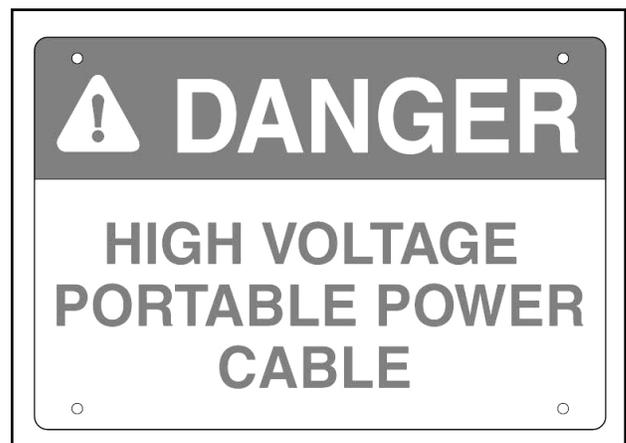

Figure 73-1 Danger Sign
1. Ensure that the danger signs are in place and visible at each end of the travel lane. See Figure 73-1.